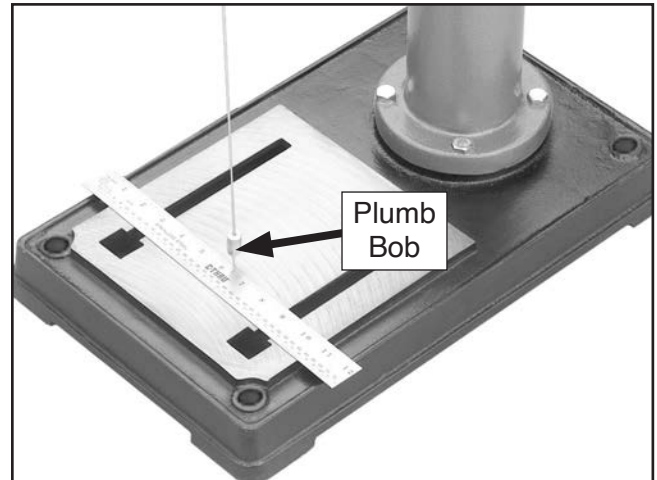

Figure 21. Example of aligning headstock with center of base.
9. Use measuring tape or ruler to find and mark center of base, then suspend plumb bob from center of headstock spindle over base, as shown in **Figure 21**.